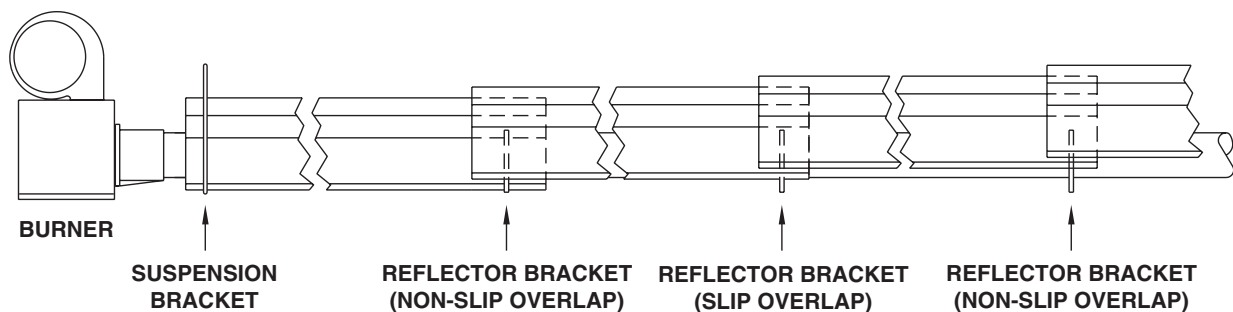

Figure 15. Typical Bracket Configuration
- d. Alternate slip with non-slip overlaps over entire length of tube assembly as shown in Figure 15.